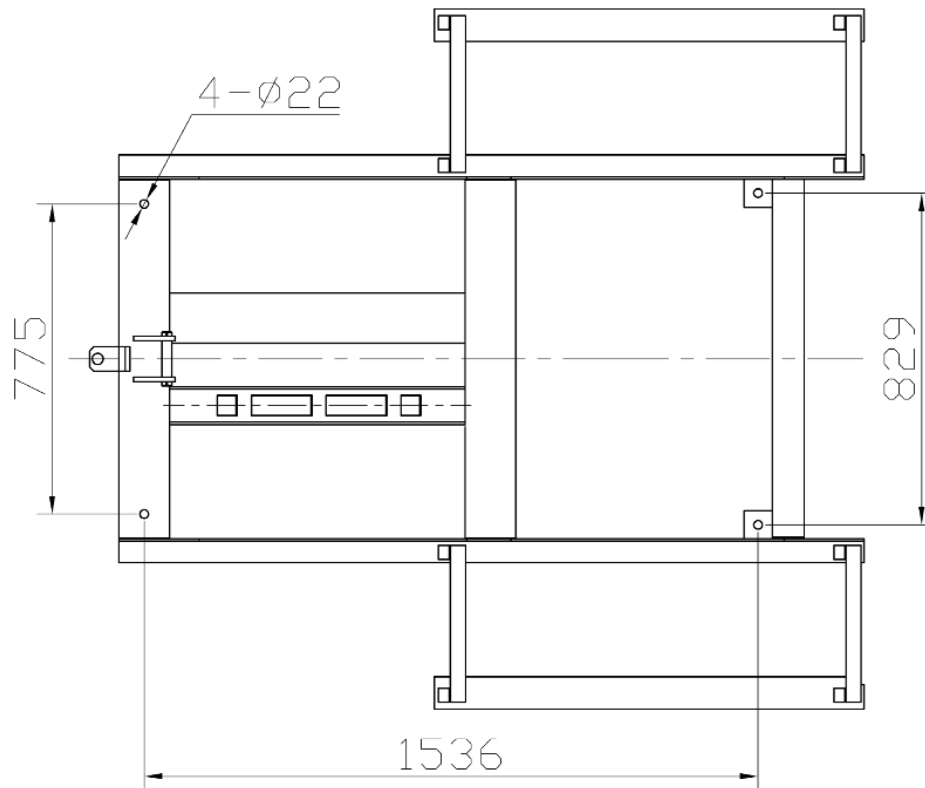

Fig. 21
5. There are four fixed holes in the machine, can fix the machine on ground by 3/4 X 4 3/4" anchor bolts (**See Fig.21**).